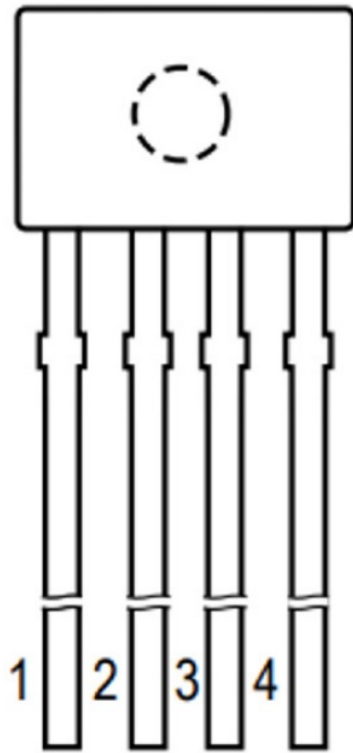

Figure 10: Package Pinout Diagram
2. Ensure that the ejector pin mark is on the side facing down into the socket as stated in the pinout diagram in the ACS70311 datasheet (see Figure 10).